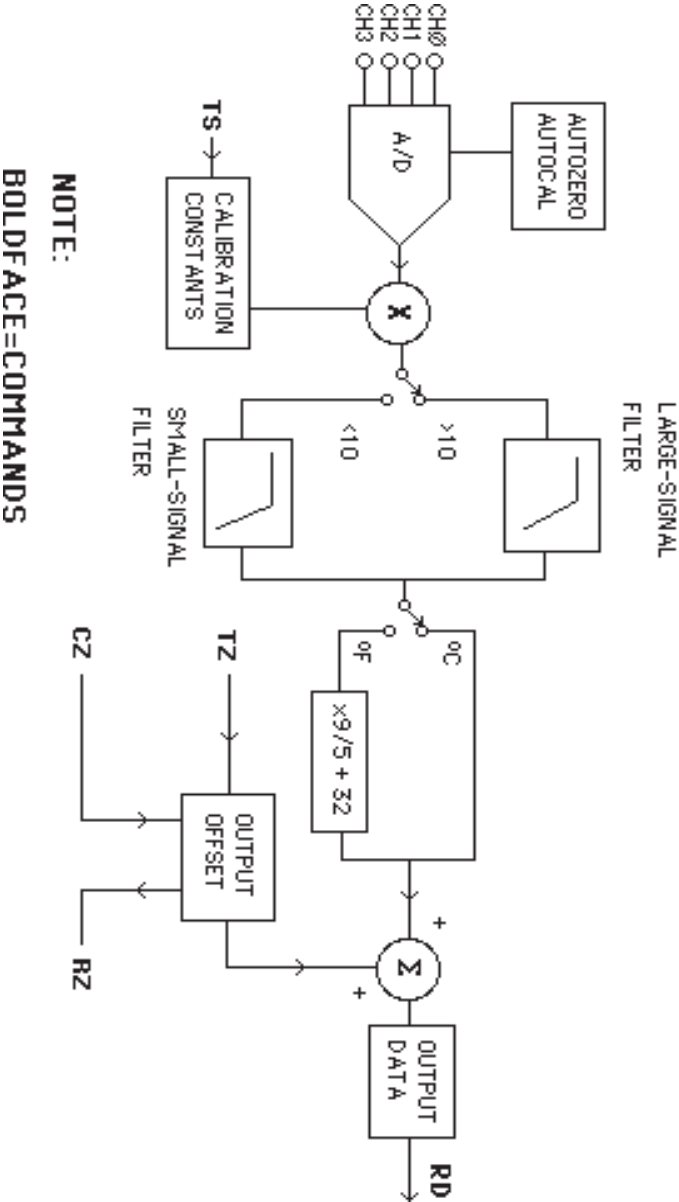

Figure 2.1 Block Diagram
A functional diagram of a typical module is shown in Figure 2.1. It is a useful reference that shows the data path in the module and to explain the function of many of the module's commands.
The first step is to acquire the sensor signal and convert it to digital data. In Figure 2.1, all the signal conditioning circuitry has been lumped into one block, the analog/digital converter (A/D). Autozero and autocalibration is performed internally and is transparent to the user.
The modules allow user selectable output scaling in °C or °F on temperature data. This selection is shown in Figure 2.1 as a switch following the digital filters. The default scaling in the modules is °C, but this may be converted to °F by feeding the data through a conversion routine. The switch position is controlled by a bit in the setup data and may be changed with the SetUp (SU) command. The scaling selection is nonvolatile. In non-temperature applications, °C should always be selected.